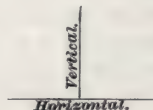

FIG. 5.
**23. A horizontal line** (see Fig. 5) is one that makes a right angle with any vertical line.